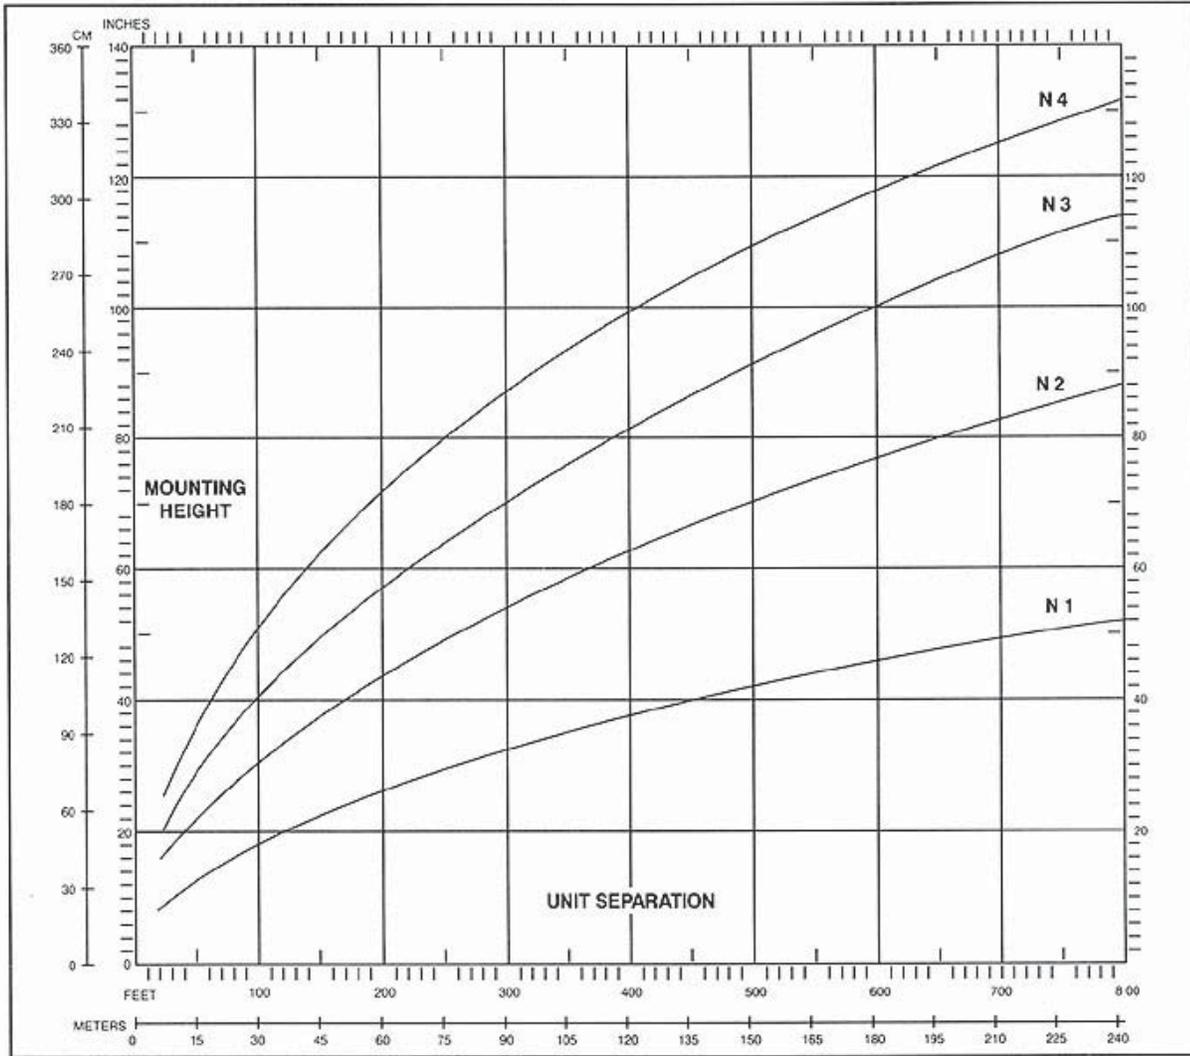

Figure 10: Mounting Height Chart
Mount the transmitter and receiver on their respective posts, using the pipe clamps and hardware provided. The mounting height of each unit is measured from the center of the antenna to ground. Mount the units at the approximate height indicated by the height chart. (see Figure 10).
4. Slowly move both units vertically up and down from the nominal mounting height determined from Figure 10. The optimum mounting height is reached when the digital voltmeter reading is the highest. Mark the spot on the wall and attach the wall mount the wall. Attached the units to the mounts.
The height chart (Figure 10) is used to determine the best theoretical mounting height of the transmitter/receiver units for optimum efficiency of the sensor system. This height chart is intended to furnish a preliminary mounting height only; the final operating height will be determined during electrical alignment and final adjustment.